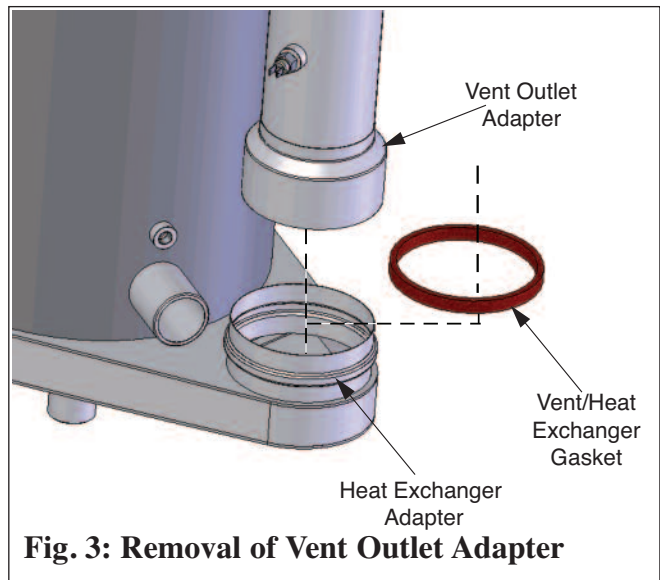

Fig. 3: Removal of Vent Outlet Adapter
5. Inspect vent/heat exchanger gasket and look for signs of flue gas leakage. Replace gasket if necessary, see Fig. 3.